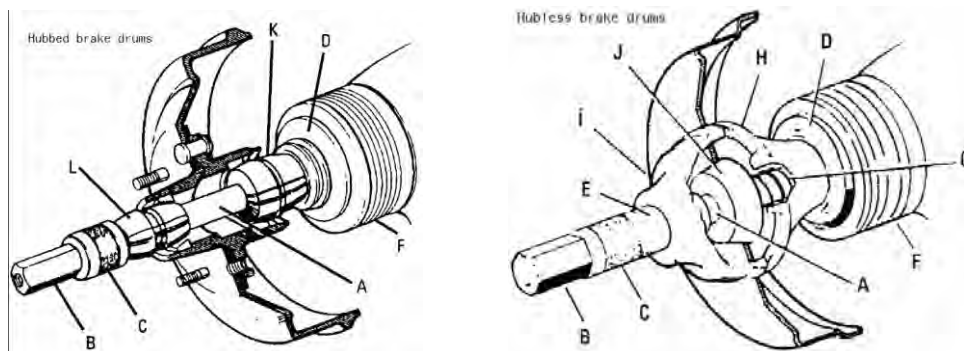

Figure 15-Typical drum mounting configurations
2. Mount the drum on the arbor using the proper adapters, cones, and spacers. Use examples in Figure 15 for guidance.